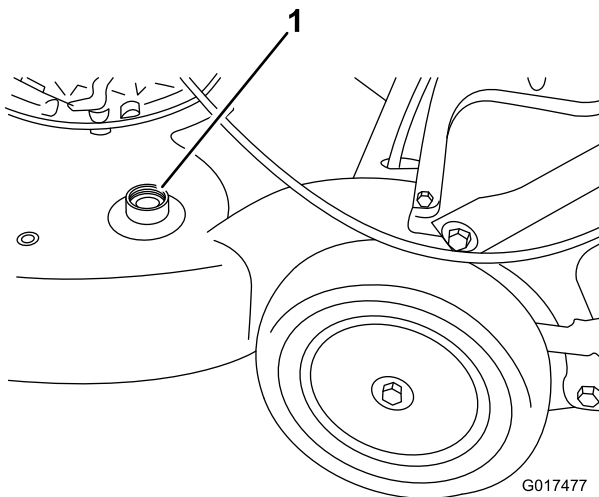

Figure 29
3. Attach a garden hose that is connected to a water supply to the washout port on the machine housing (Figure 29).